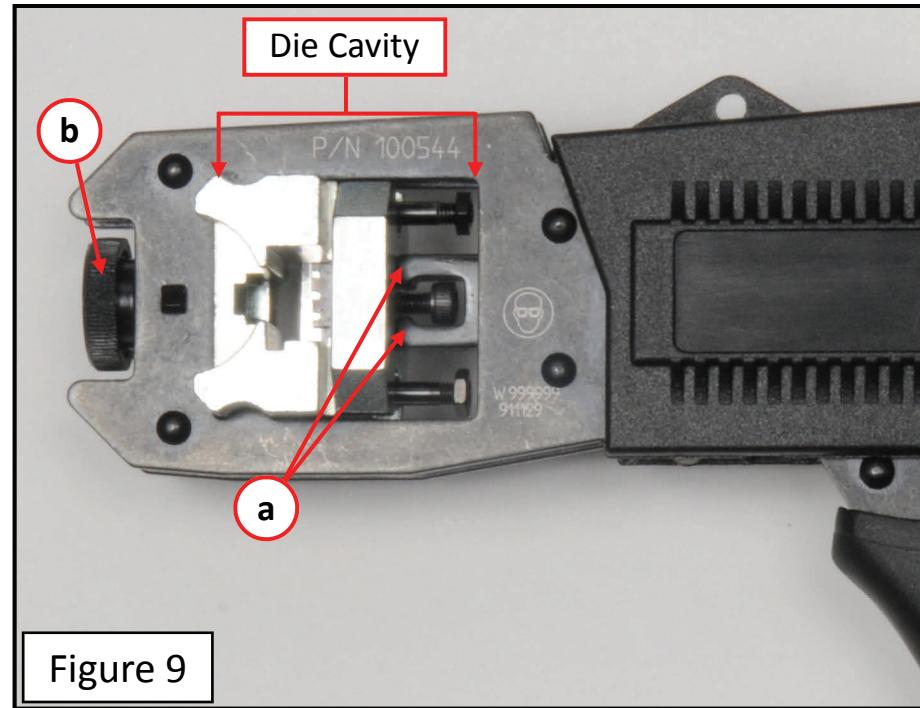

Figure 9
- 1) Squeeze frame handles until the upper die control arms, Figure 9 (a) are visible in the die cavity.
- 3) Slide die out of tool frame by pushing from the opposite side shown in Figure 9.